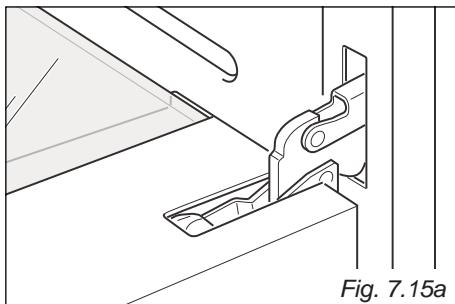

Fig. 7.15a
- Open the door to the full extent (fig. 7.15a).
- Unlock the oven door by opening it completely and closing the lever "A" on the left and right hinges (fig. 7.15a).